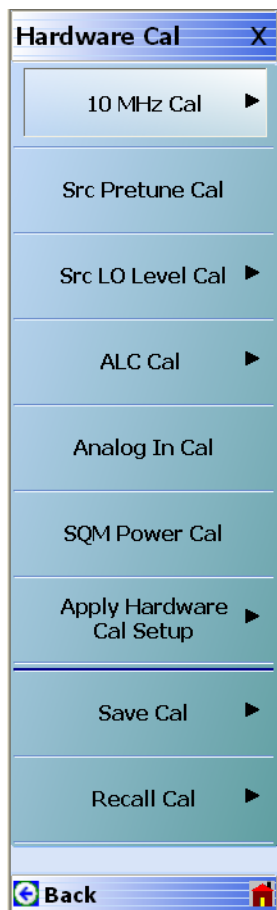

Figure 5-4. HARDWARE CAL Menu
15. Select Hardware Cal to access the Hardware Cal Menu as shown in Figure 5-4.